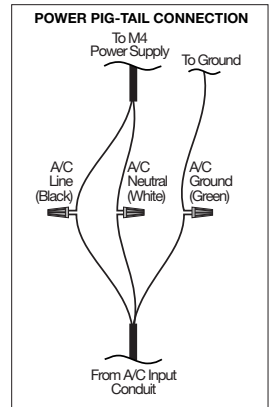

FIGURE 3a
4. Twist the black wire of the M4 controller with the incoming "120 VAC" wire. Install a wire nut or crimp using an approved insulated method (see FIGURE 3a).
5. Twist the white wire of the M4 controller with the incoming “neutral” (not the ground) wire. Secure as in “step (4)” (see FIGURE 3a).
6. Repeat for the green ground wire and the incoming ground wire (see FIGURE 3a).